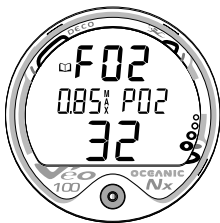

Fig. 57 - LOG O2 DATA
**O2 Data** (the third screen) information includes (Fig. 57) -